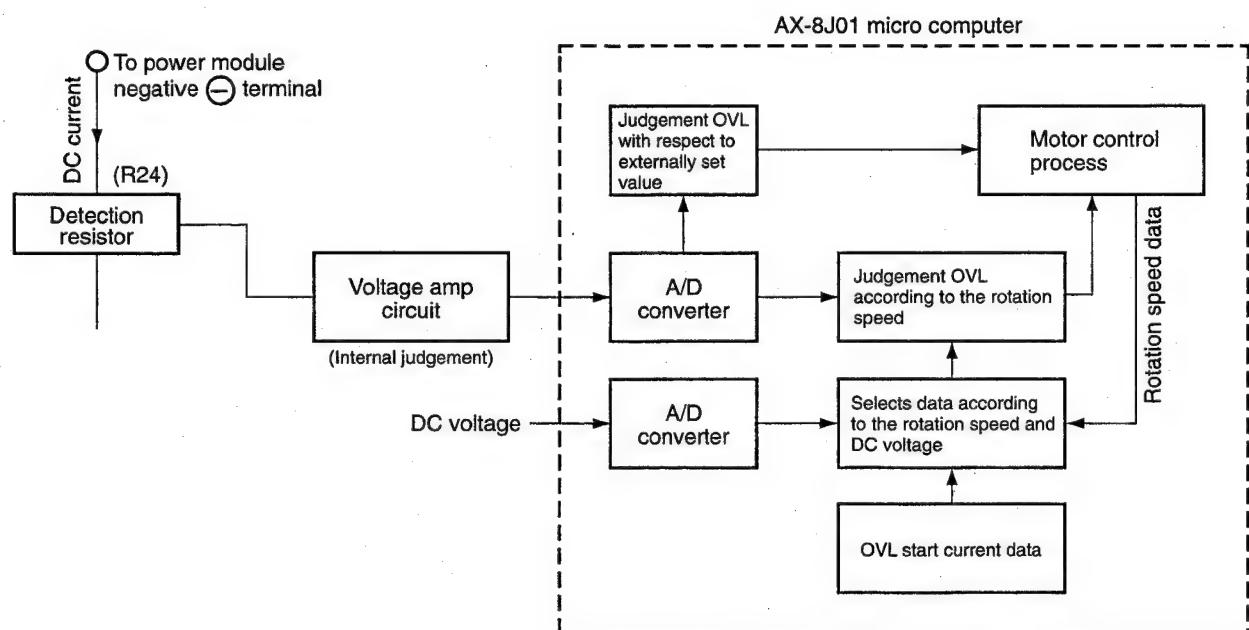
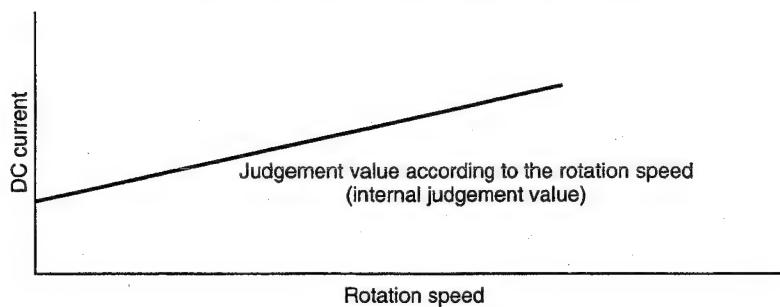

Fig. 8-4 Overload Control System Configuration
Fig. 8-5
- Fig. 8-4 shows the overload control system configuration and Fig. 8-5 is a characteristic diagram of overload judgement values. There are two judgement methods-external judgement which compares the externally set value with the DC current value regardless of the rotation speed and internal judgement which compares the set value that varies according to the rotation speed programmed in the micro computer software with the DC current value.